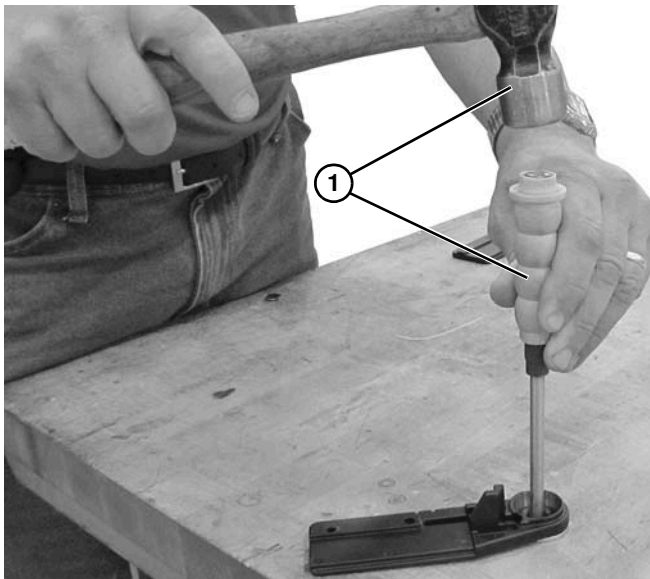
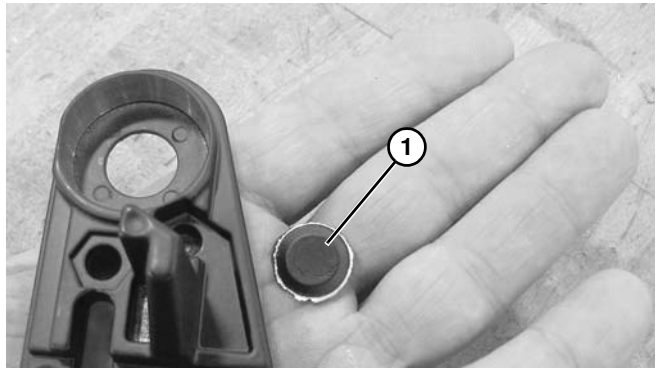

Figure 83
Figure 84
3. Use a hammer and punch (6 mm - 13 mm diameter) (**Figure 83, item 1**) or long bolt to knock out slug (**Figure 84, item 1**) for shaft backing up tail plate with washer.